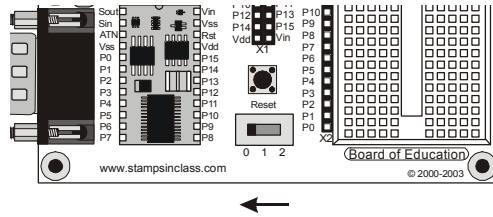

Figure 1-50
- ✓ If you are using the Board of Education Rev C, move the 3-position switch to position-0 by pushing it to the left as shown in Figure 1-50.